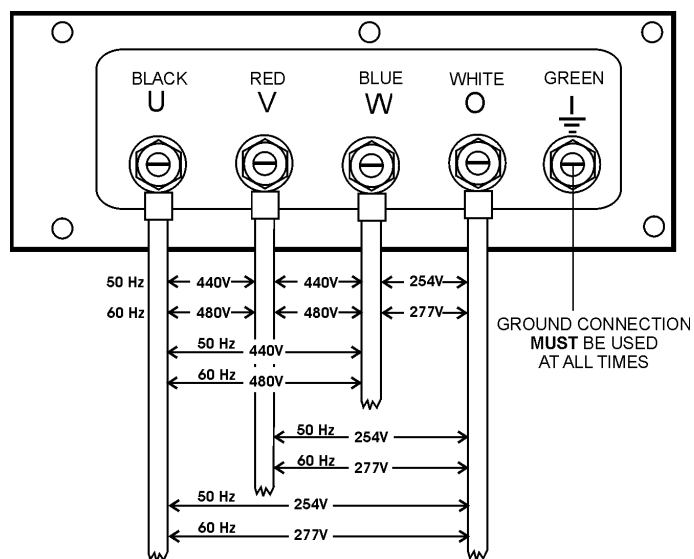

Figure 28. Output Terminal Lugs 3Ø 440/480V (50/60 Hz) Connections
2. Connect the load wires to the **Output Terminal Lugs** as shown in Figure 28.